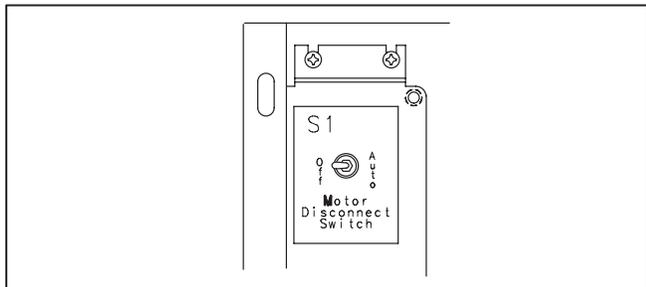

FIGURE 3-4. MOTOR DISCONNECT SWITCH
3. Move the Motor Disconnect toggle switch (Figure 3-4) to the Off position to disable the linear actuator.